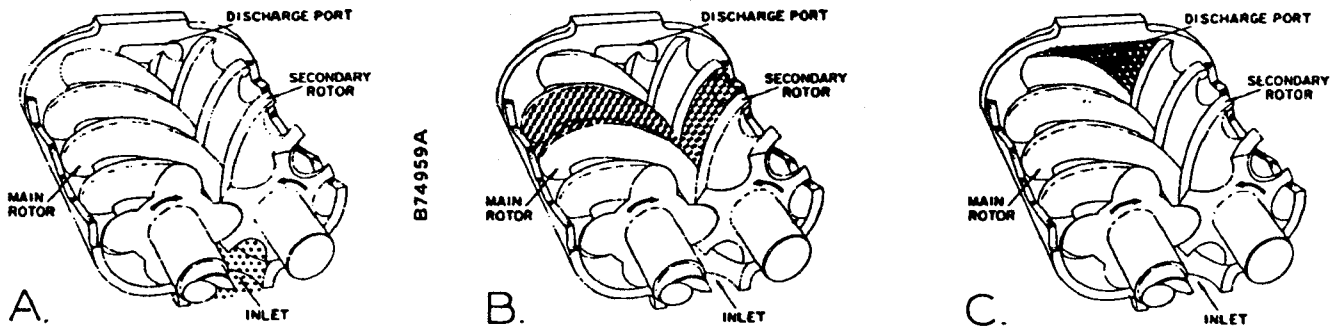

FIGURE 1-1 - COMPRESSION CYCLE
COMPRESSION PRINCIPLE (Figure 1-1) - Compression is accomplished by the main and secondary rotors synchronously meshing in a one-piece cylinder. The main rotor has four (4) helical lobes 90° apart. The secondary rotor has six (6) matching helical grooves 60° apart to allow meshing with main rotor lobes.
The air inlet port is located on top of the compressor cylinder near the drive shaft end. The discharge port is near the bottom at the opposite end of the compressor cylinder. *Figure 1-1 is an inverted view to show inlet and discharge ports.* The compression cycle begins as the rotors unmesh at the inlet port and air is drawn into the cavity between the main rotor lobes and the secondary rotor grooves (A). When the rotors pass the inlet port cutoff, air is trapped in the interlobe cavity and flows axially with the meshing rotors (B). As meshing continues, more of the main rotor lobe enters the secondary rotor groove, normal volume is reduced and pressure increases.